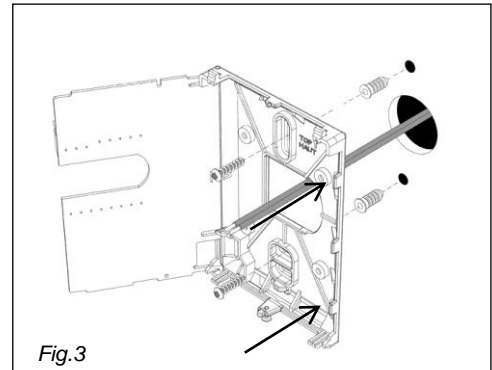

Fig.3
- 1- Swing open the humidistat PCB to the left by pressing the PCB locking tabs. **(Fig. 3)**
### (Fig. 3)